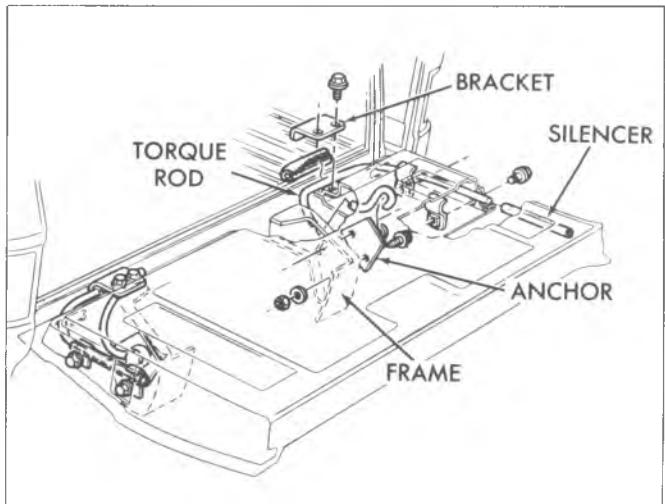

Fig. 59—Torque Rod Installation (14)
2. Disconnect torque rod anchor plate. It is necessary to remove the lower bolt only, then let plate swing down. See figure 59.
5. Remove torque rod retaining bracket on lower edge of endgate. See figure 59.